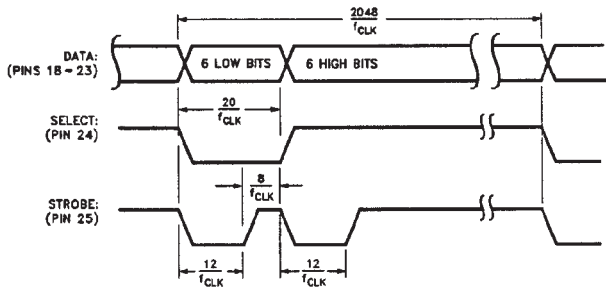

FIGURE 8. 12-BIT Multiplexed Output Timing
2. LM628 (12-bit output mode): Outputs two, multiplexed 6-bit words. The less-significant word is output first. The MSB is on Pin 18 and the LSB is on Pin 23. Pin 24 is used to demultiplex the words; Pin 24 is low for the less-significant word. The positive-going edge of the signal on Pin 25 is used to strobe the output data. Figure 8 shows the timing of the multiplexed signals.
The LM628 DAC output port can be configured to provide either a latched eight-bit parallel output or a multiplexed 12-bit output. The 8-bit output can be directly connected to a flow-through (non-input-latching) D/A converter; the 12-bit output can be easily demultiplexed using an external 6-bit latch and an input-latching 12-bit D/A converter. The DAC output data is offset-binary coded; the 8-bit code for zero is 80 hex and the 12-bit code for zero is 800 hex. Values less than these cause a negative torque to be applied to the motor and, conversely, larger values cause positive motor torque. The LM628, when configured for 12-bit output, provides signals which control the demultiplexing process. See Figure 8 for details.